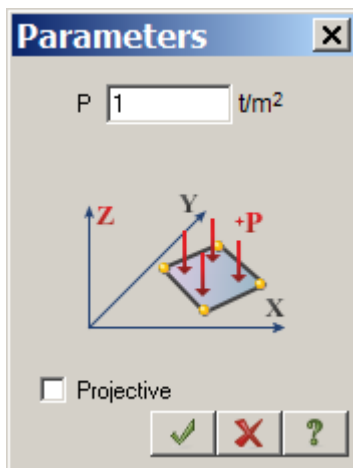

Figure 16.17 Load parameters dialog box
- ⇒ In the **Load parameters** dialog box specify $P = 1 \text{ t/m}^2$ (see Fig.16.17).